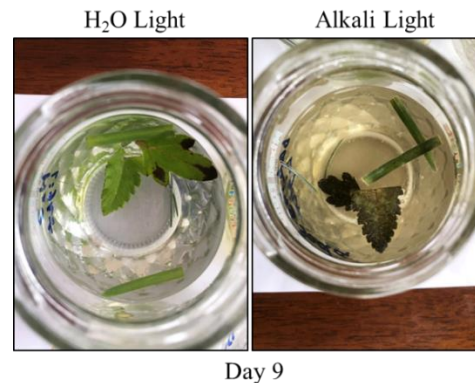

Figure 15. Detached leaves after 9 days' incubation under light in water or 6% baking soda solution.
4. Compare images and morphology of detached leaves in “**H₂O Light**” and “**Alkali Light**”. Did supplementing water with 6% baking soda cause leaf damage (translucent leaf blades, brown necrotic spots, and yellowing of aqueous solution)? Use images you took yourself and leaf morphology you observed to support your answer (Exemplary images are shown in **Figure 15** below). Explain your observations. (*Hint: Consider the optimum pH range of plants.*)